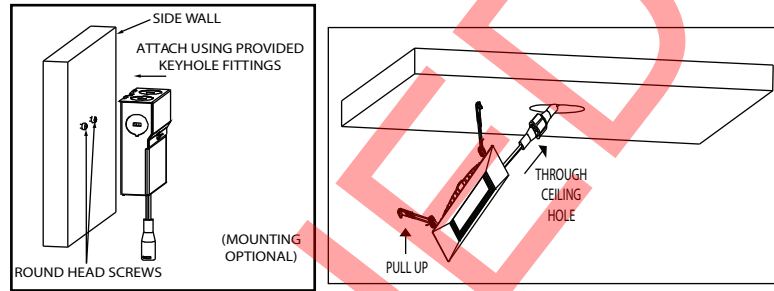

Figure 4 / Figura 4 / Schéma 4 Figure 5 / Figura 5 / Schéma 5
- MUST follow local electric code** for rigid attachment and placement of the remote driver box. (Figure 4)